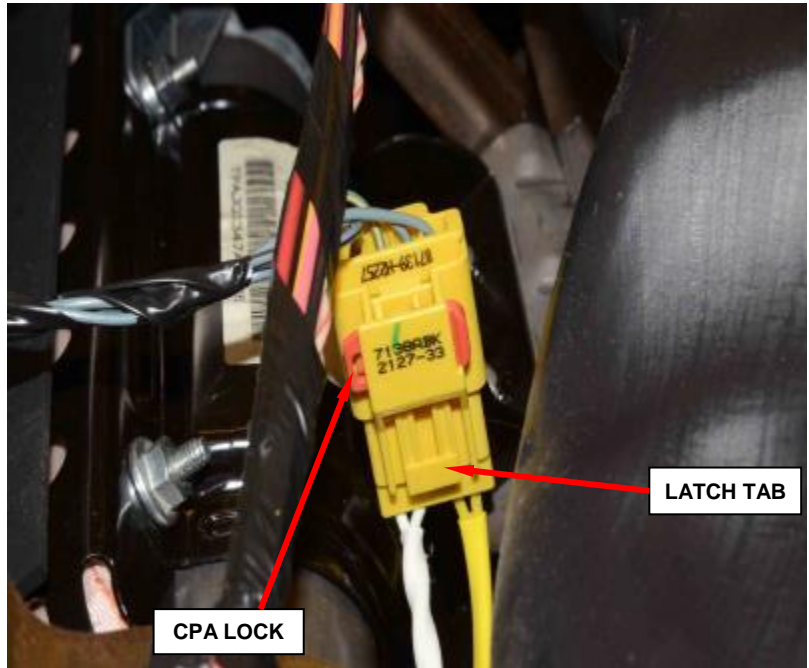

Figure 78 - Airbag Inflator Pigtail Connector
a. Slide the red Connector Position Assurance (CPA) lock on the connector toward the side of the connector (Figure 78).